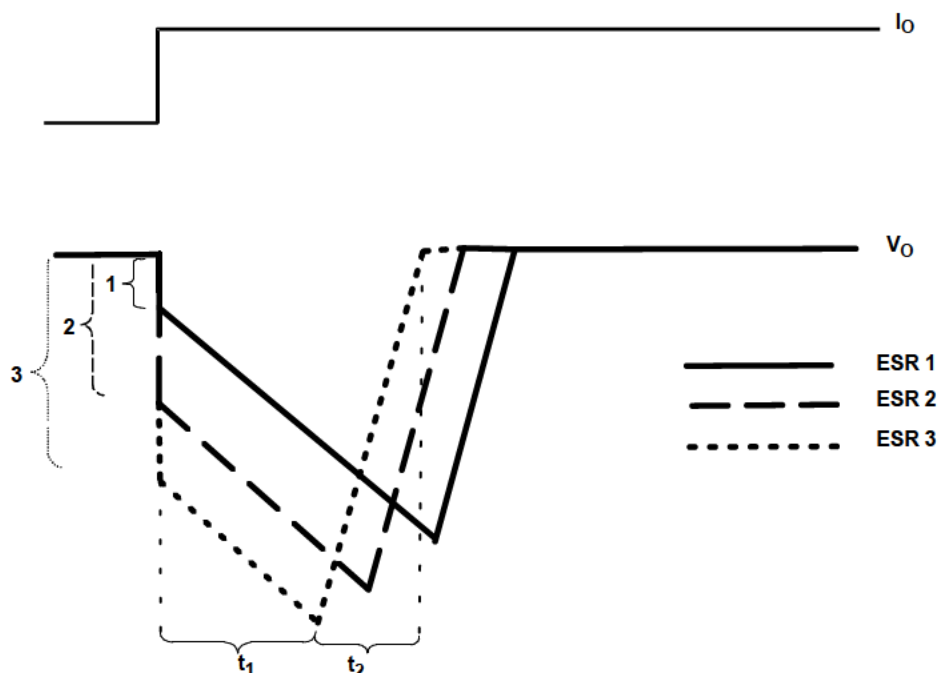

Figure 49. Correlation of Different ESRs and Their Influence on the Regulation of V_O at a Load Step from Low-to-High Output Current
- When C_O is conducting current to the load, initial voltage at the load will be $V_O = V_{(CO)} - V_{ESR}$. Due to the discharge of C_O , the output voltage V_O drops continuously until the response time t_1 of the LDO is reached and the LDO resumes supplying the load. From this point, the output voltage starts rising again until it reaches the regulated voltage. This period is shown as t_2 in Figure 49.